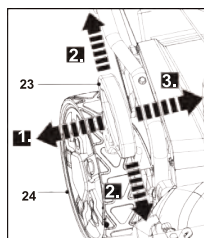

Fig. 20
1. Set the cutting height adjustment lever (24) higher than the second lowest position (Fig. 20).
1. Pull the lever for cutting height adjustment (23) towards the rear wheel (24) (Fig. 20, step 1), then move it forward or backward to the desired cutting height (Fig. 20, step 2).
2. Release the lever (23) and ensure it engages into place properly (Fig. 20, step 3).